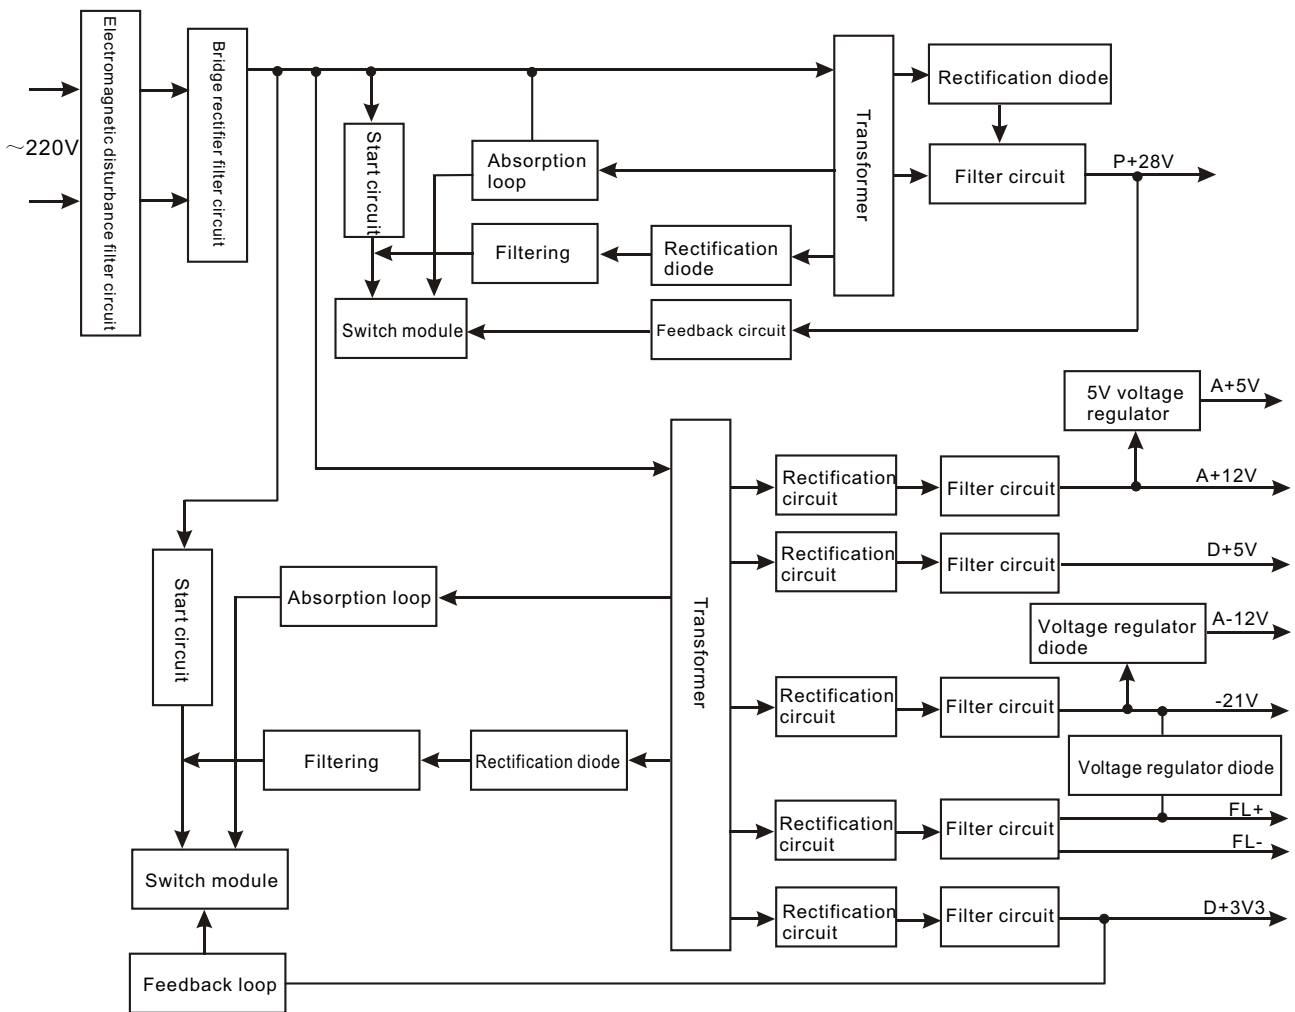

Figure 3.2.12.1 Powersupply circuit block diagram
1. Power supply circuit block diagram is shown as the following figure 3.2.12.1: